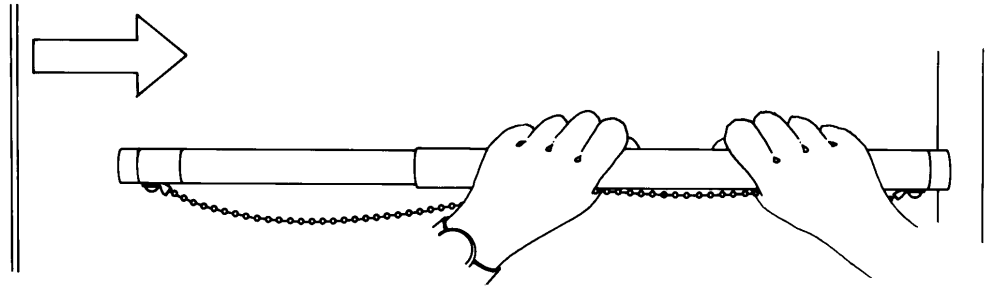

Figure 14 - Safe Use of the Door Gauge
3. Measure the closing force with a force gauge. The closing force should be less than 30 lbf in the middle one-third of travel. See Figure 14.